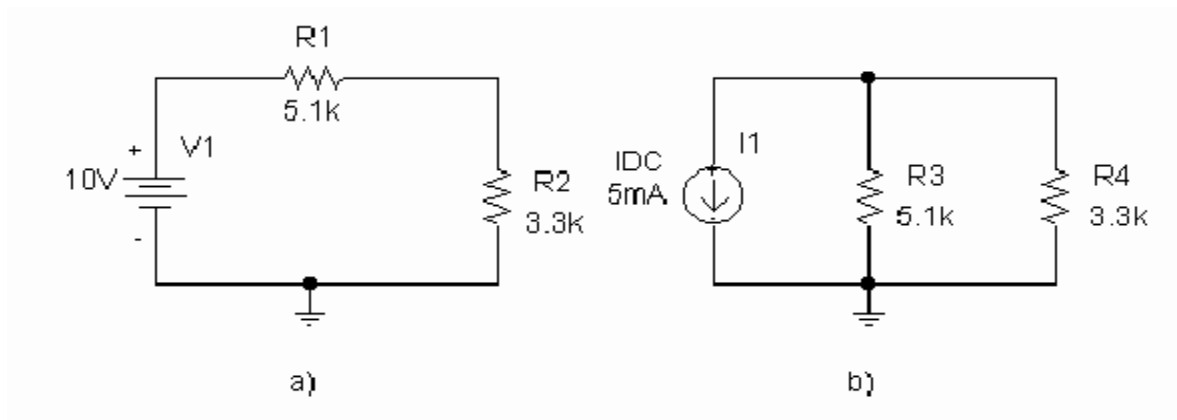

Figure 6. Circuits for Keithley SMU to measure voltages and currents.
This part of the lab experience will focus on the Keithley SMU. Notice that Figure 6 a) and b) are source transforms of each other. You should be able to compare and contrast the voltage and current measurements. Do all of the following.
1. Using the circuit of Figure 6 a), set up a Keithley SMU as a voltage source of 10 V DC. Use the second Keithley SMU to measure the voltages in R_1 and R_2 . Measure the current in the circuit directly from the Keithley SMU used as the voltage source.
2. Using the circuit of Figure 6 b), set up a Keithley SMU as a current source of 5 mA DC. Set up the other Keithley to measure the current in R_3 and in R_4 .